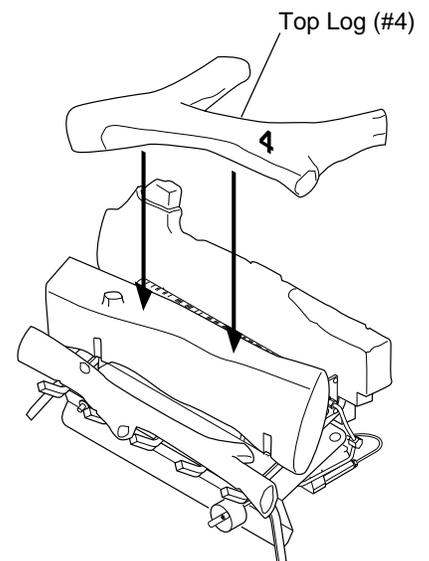

Figure 20 - Installing Top Log
4. Finally place top log (#4) over bottom mid log (#2) by matching the notches under log (#4) with the raised blocks of log (#2) (see Figure 20).